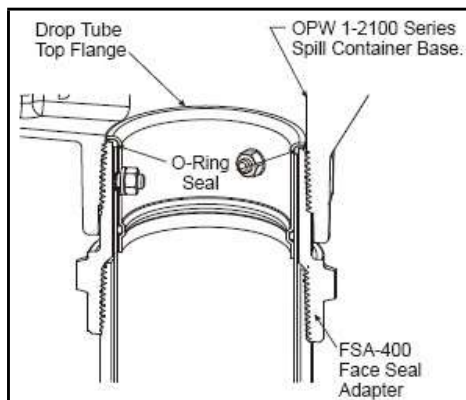

Figure 3
Step 3: (See Figures 3 and 3A)